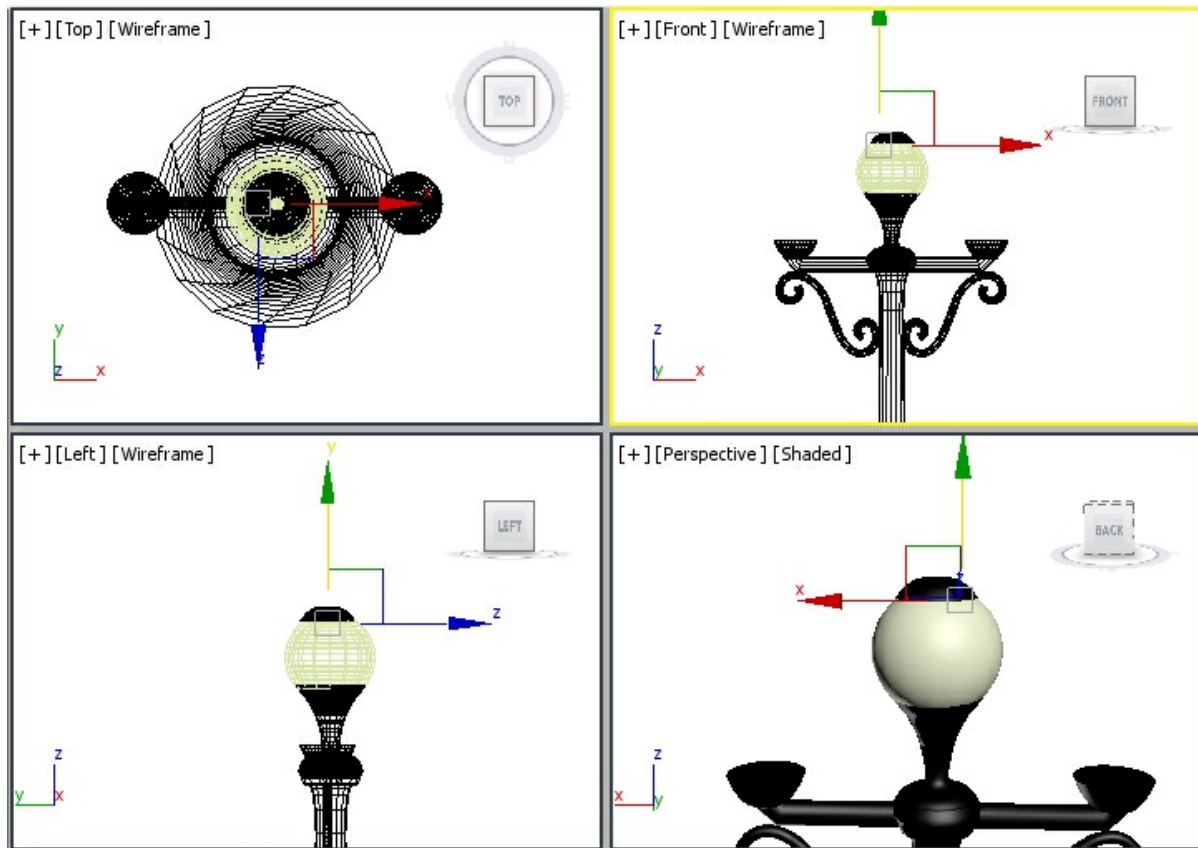

Figure 6-69 The top01 aligned in the viewports
4. Align *top01* in the viewports, as shown in Figure 6-69.